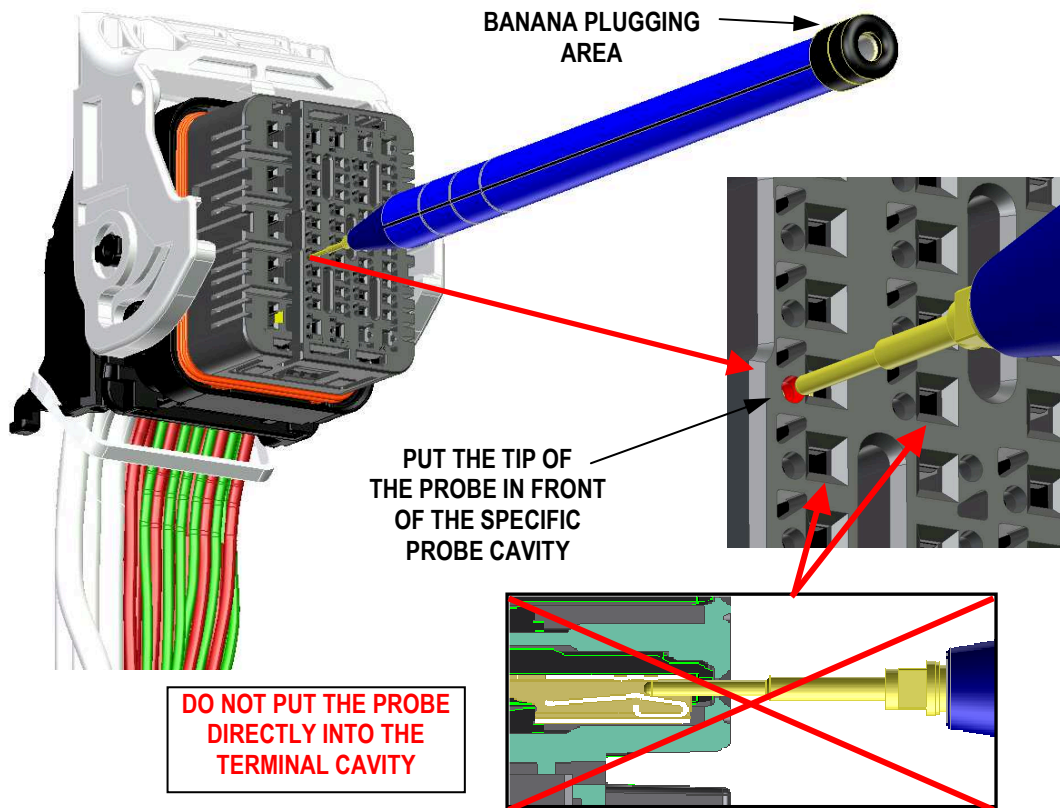

Figure 3
- Maintain pen perpendicularity to the connector housing, for correct contact onto the terminals. This will also prevent damage to the test probe. See Figure 3.